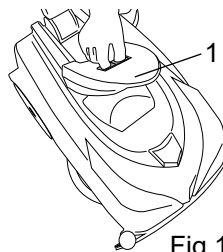

Fig.19
- Release the lid of the dirty water tank by pressing the two sliding catches toward one another (fig. 19, ref. 1).